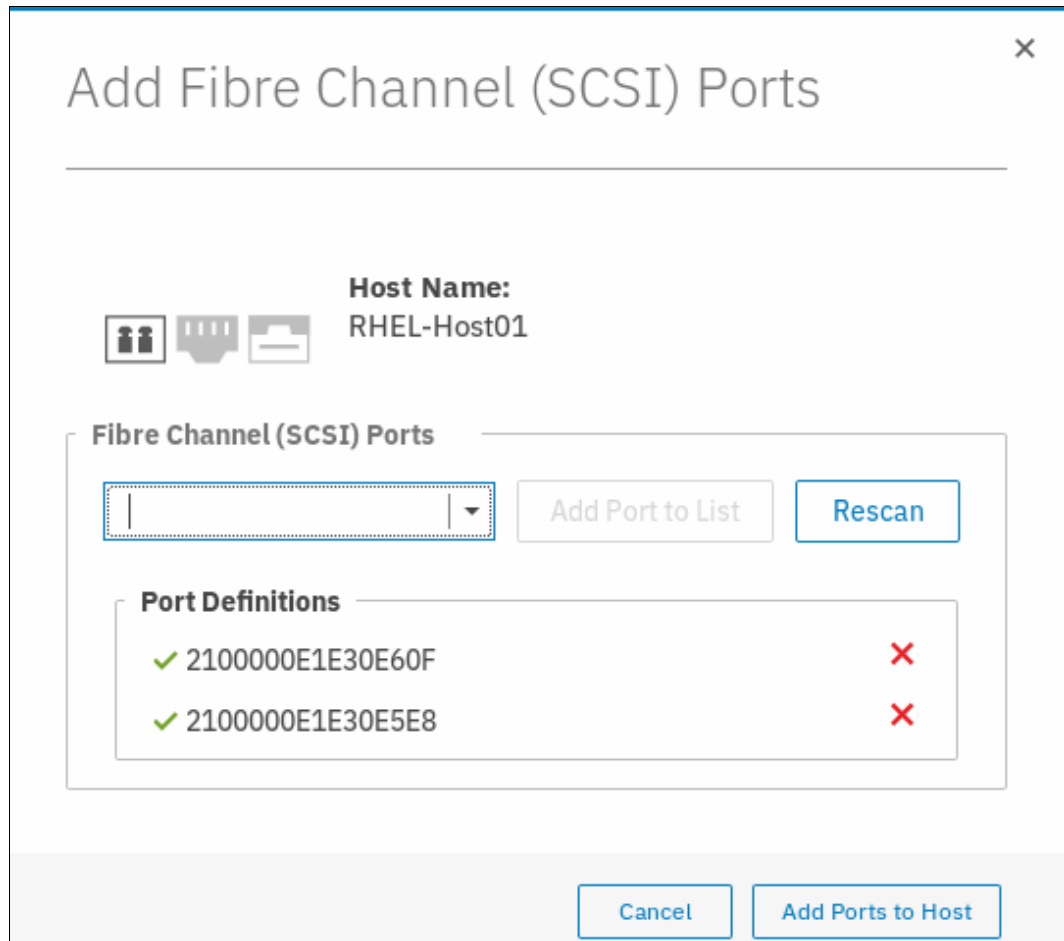

Figure 8-29 Port Definitions
4. The selected port is shown under **Port Definitions**, as shown in Figure 8-29.